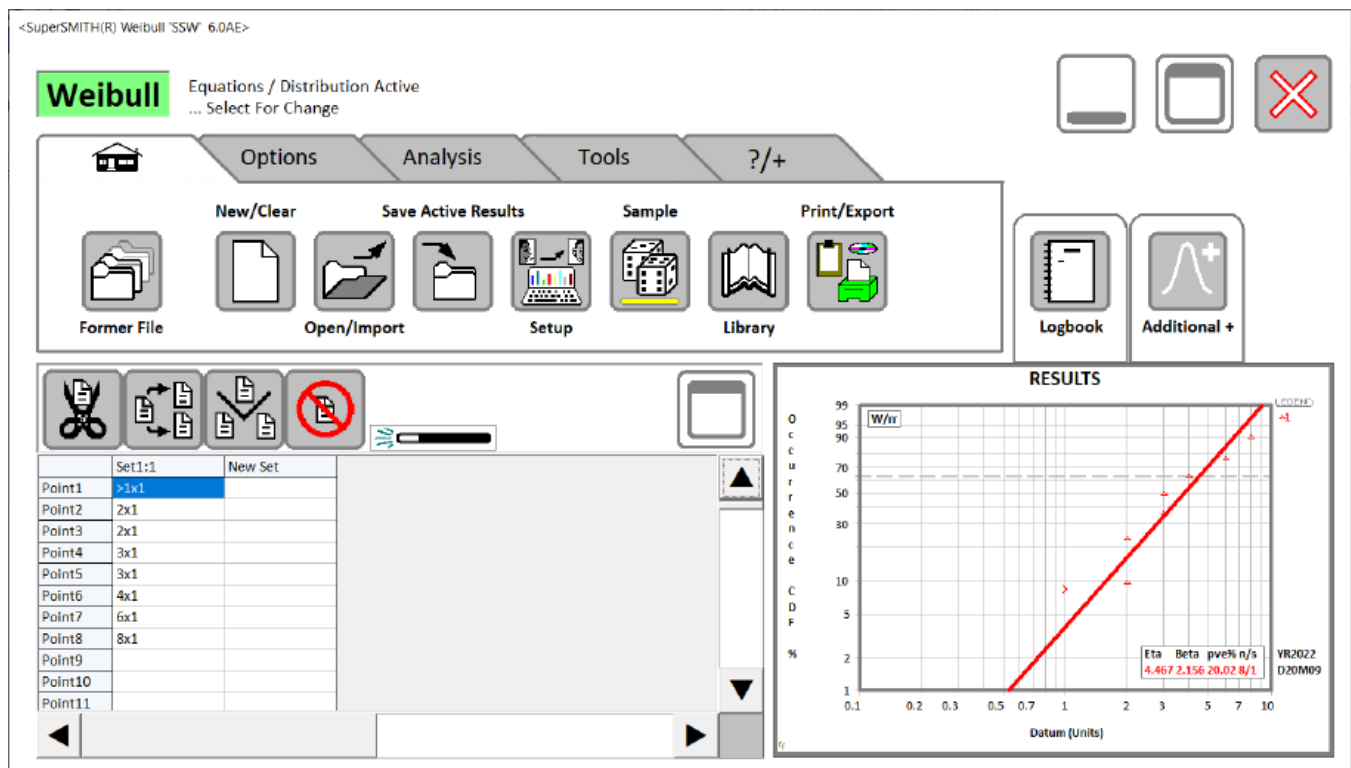

Figure 2: New SuperSMITH Weibull Main Screen Icon Layout.
DIRECT INSTALL: Power up the PC (Windows or simulator). Have the SS **setup.exe** and other installation files available. Load onto the PC by running **setup.exe** and following the prompts. After install, within the SuperSMITH group, select the SuperSMITH Weibull program. This is the SMITHW.EXE file or the icon showing plotted data with fit and confidence lines. Initially select "Yes" to agree to usage conditions, and automatically advance to the Main Screen (Figure 1 below shows the former icon layout, Figure 2 on the next page shows the new icon layout).
Use single selecting (single touching for touch screens) mostly in SuperSMITH. Double selecting is discouraged to minimize hand stress. We will be using life data mostly for illustration, but any type of measured data with variability can be analyzed. **For this tutorial if using the DEMO software, all input data must only be loaded from a file previously saved by a FULL SuperSMITH software program (provided with the software).** If using the FULL software, this is not a concern but maybe easier to do. All file names shown here are on a single text line for easy copying. Reminder: Figure 1 shows the new SSW icon layout for standard pointing device use, and Figure 2 shows an optional larger icon layout with tabs for touch screen use.
Start the SSW software by choosing Start from the Windows™ Main Screen, then the SuperSMITH group, then Weibull. On first use, select “Yes, I agree...” if you are asked and if you agree to the software use terms. You should see the Main Screen (Figure 2 below) with equation label (“Weibull” at first), some tabs, some icons, a data grid and a results box.
- B. A probability plot should appear. Select the plot to enlarge. The plot should resemble the one in Figure 2. Your solution should indicate Eta=4.467, Beta=2.156. If not ... check the data and/or reset the method to Weibull “rank regression” standard. Select the full-window plot or use the <ESC> key to shrink the plot which will take you back to the Main Screen.